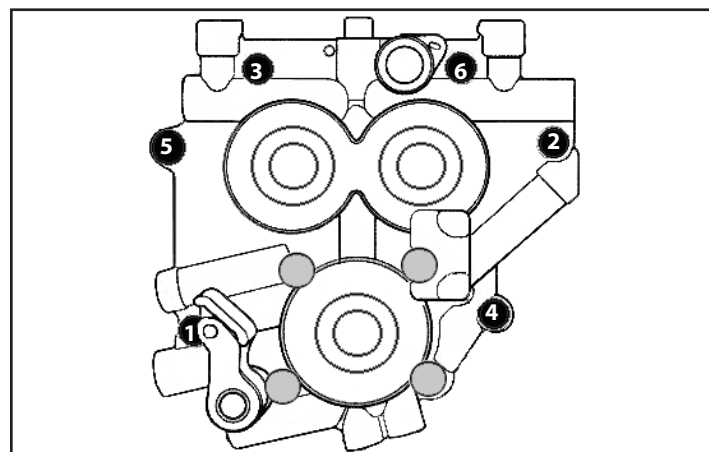

Figure 2
10. Gradually loosen and remove six support plate bolts according to sequence shown in **Figure 2, below right.**
8. Apply Loctite® 243 (blue) to six support plate screws, install screws, and gradually tighten to 95 in-lbs. in sequence illustrated in Figure 2 on page 7.